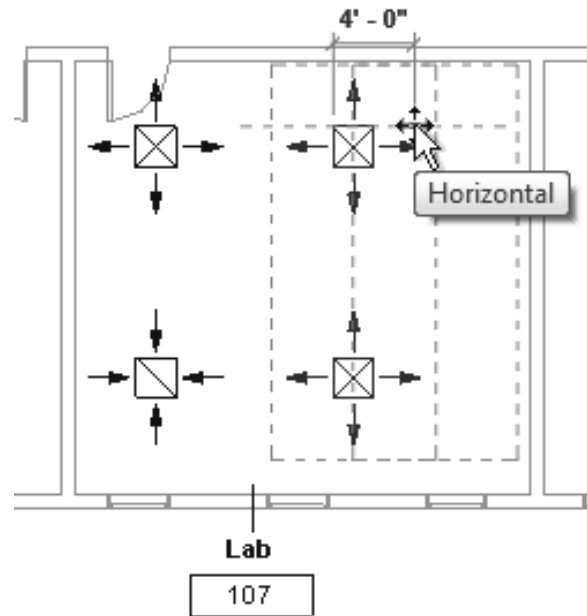

Figure 2-63
11. Select a base point on one of the air terminals and then use temporary dimensions to move the air terminals **4'-0"**, as shown in Figure 2-63.